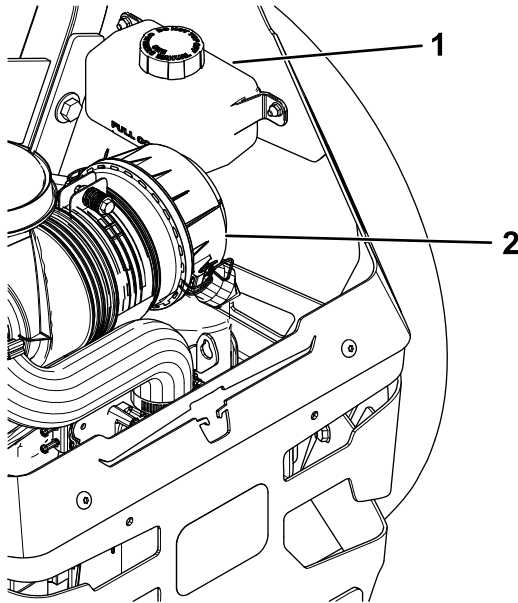

Figure 83
2. Check expansion reservoir and if necessary add Toro® HYPR-OIL™ 500 hydraulic fluid to the FULL COLD line (Figure 83).